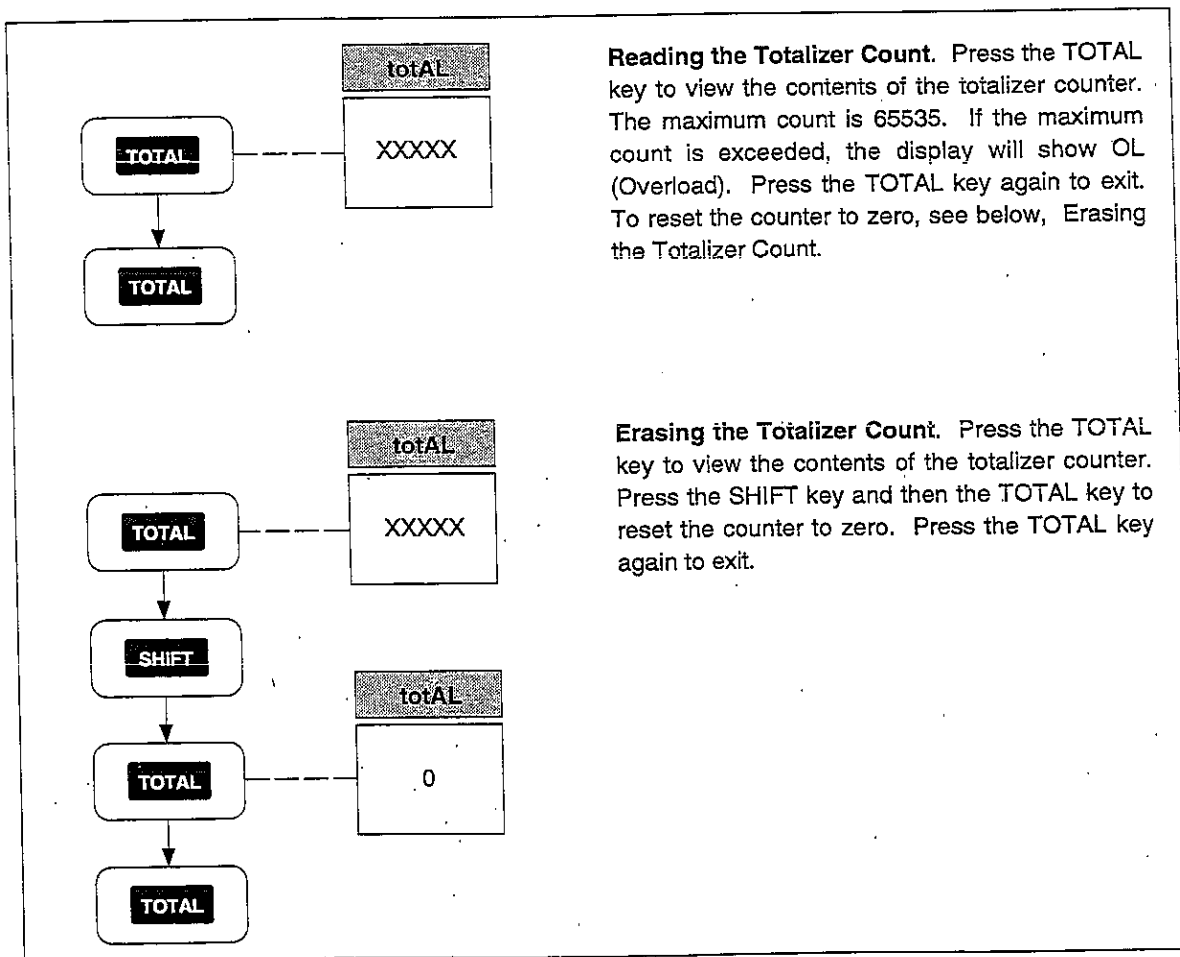

Figure 2-20. Totalizer Operation
- Totalizer Operation (Figure 2-20)
Perform the procedure in Figure 2-20 to use the totalizer feature. The totalizer count can be monitored when the instrument is active or inactive. The totalizer is an internal counter that sums contact closures or voltage transitions. Connection is at the rear panel DIGITAL I/O connector, pins Σ and ' . A contact closure between Σ and ' or a voltage transition applied to Σ (referenced to '), will cause the totalizer to advance by one count. The maximum count allowed is 65535 and the maximum count rate is 5 kHz. Voltages trigger on a low-to-high transition at a nominal threshold of +1.4 volts. A contact debounce feature is available when the instrument is operated through a computer interface. (See Section 4, "Computer Operations.")